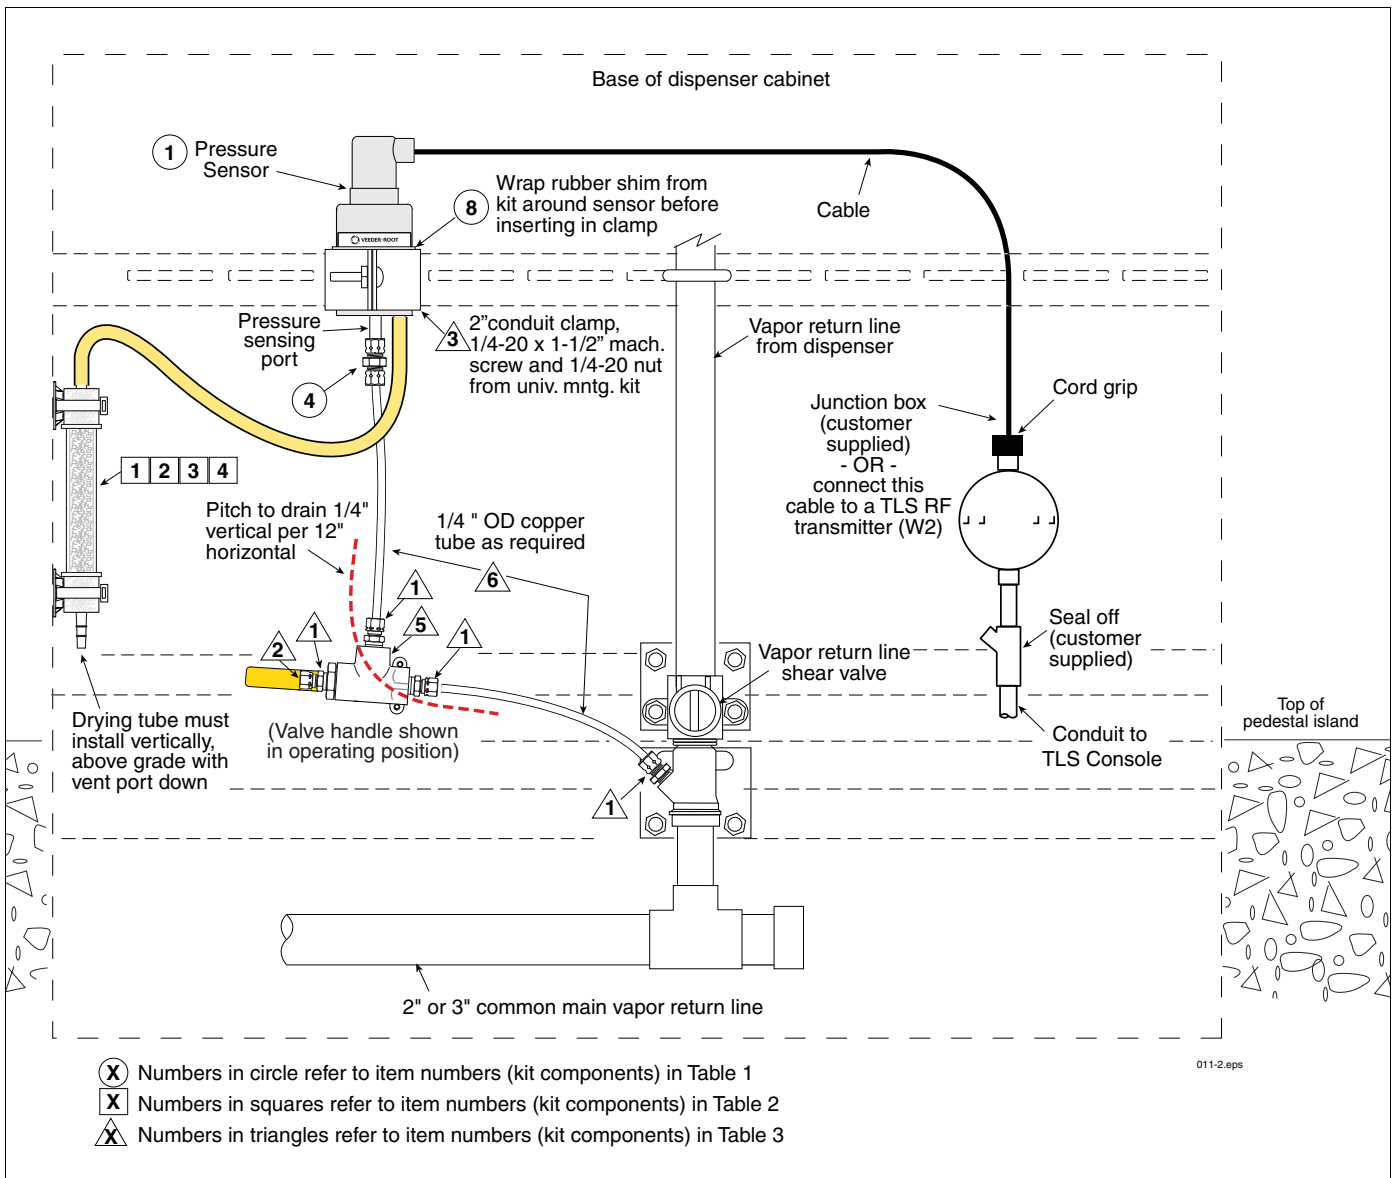
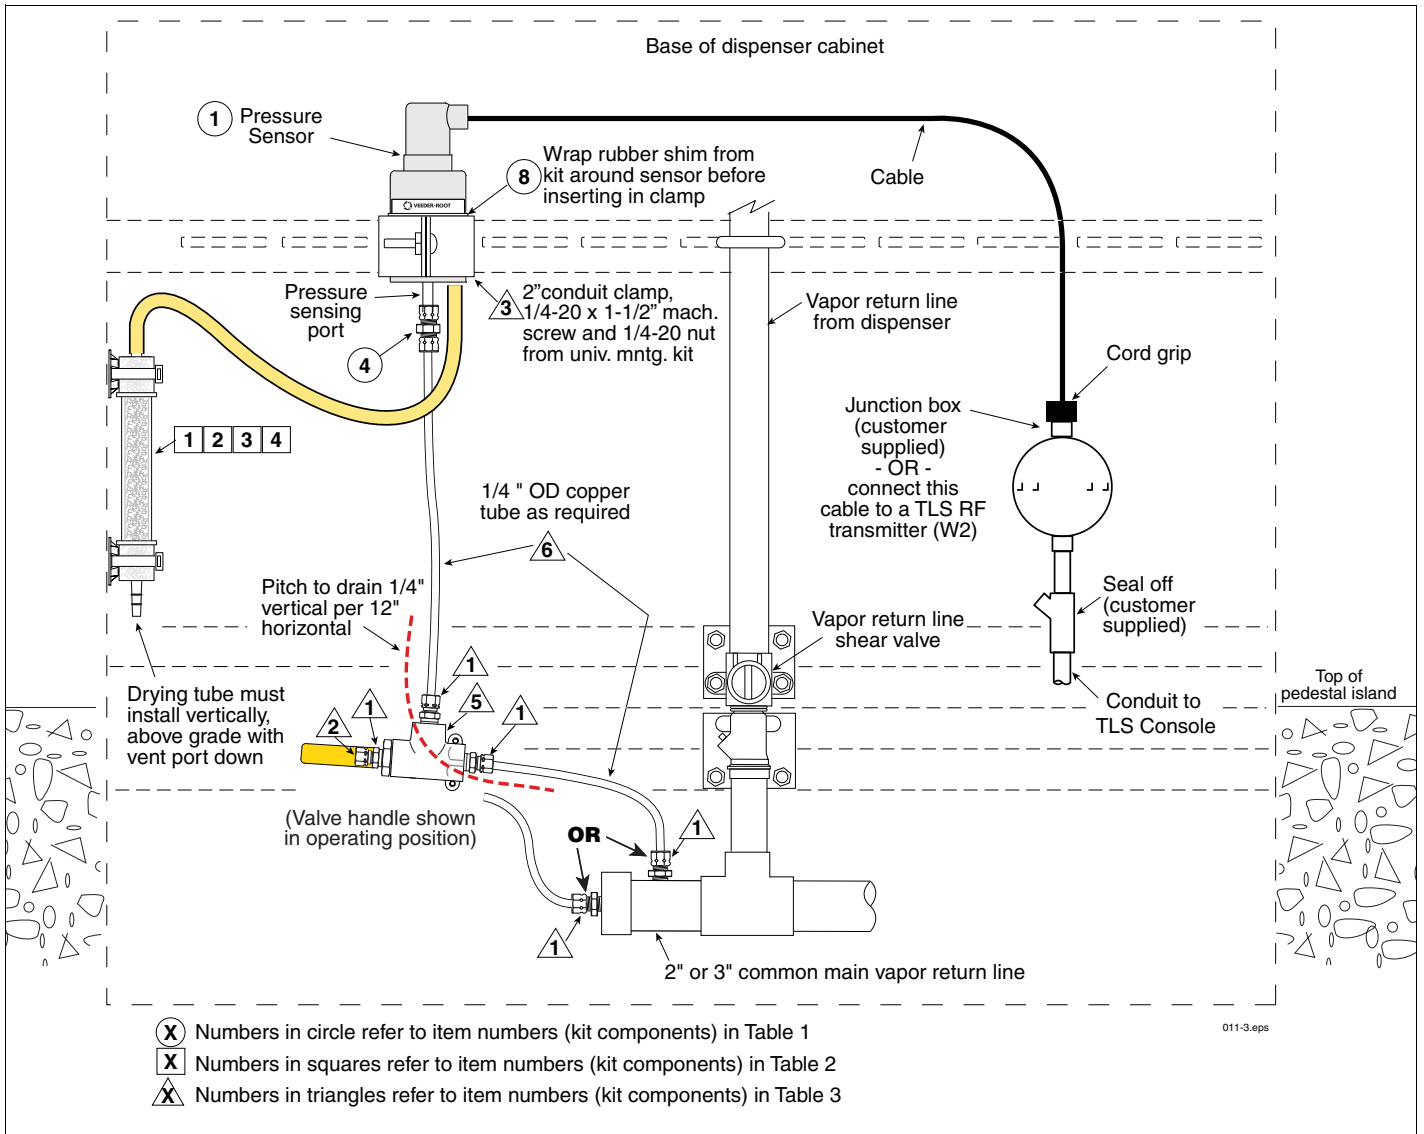

Figure 1. Example Pressure Sensor Install In Shear Valve Port - Preferred Non-ISD Installation (Without Vapor Flow Meter)
Figure 2. Example Pressure Sensor Install In Vapor Return Line - Non-ISD Installation (Without Vapor Flow Meter)
3. Refer to Pressure Sensor dispenser installation examples in Figure 1 and Figure 2 to locate a suitable port or plumb a suitable fitting for the Pressure Sensor tubing in either the vapor return shear valve or in the vapor return line. **NOTE: In ISD installations, the pressure port used must be below the vapor flow meter outlet.**
4. Install one of the 68CA-4-4 male connectors (item 1 in Table 3) from the kit into the vapor return tapped hole.
5. Install Pressure Sensor (item 1 in Table 1) vertically to the dispenser frame or piping using the 2-inch conduit clamp, rubber shim, and necessary bolts, nuts, and washers from the included Universal Sensor Mounting kit (item 3 in Table 3). Wrap the rubber shim (item 8 in Table 1) around the sensor before inserting it into the clamp. Also make sure the sensor cable outlet is facing up and the pressure sensing port tube in the base of the sensor is facing down.
6. Attach one end of the 62CA-4 union (item 4 in Table 1) to the pressure sensing port in the base of the Pressure Sensor.
7. Install the remaining 68CA-4-4 male connectors (item 1 in Table 3) from the kit into each of the three ports in the 3-way calibration valve (item 5 in Table 3).
8. Measure, fabricate, and install a 1/4" OD copper tube (item 6 in Table 3) that runs between the 62CA-4 union in the base of the sensor and the center port of the 3-way calibration valve.
10. Screw the 59CA-4 plug, (item 2 in Table 3) onto the left port's male connector. Make sure the valve's handle is set to connect the sensor to the vapor return line (normal operating position).
15. Get the contents of the pressure sensor drying tube kit (Table 2). Thread a tie wrap (item 3) through the slots in each of the self-adhesive mounts (item 4). Place the top mount against the large cap on one end of the tube and tighten the tie wrap until it is against the tube cap but you can still rotate the tube. Place the second mount against the other end cap of the tube, again pulling the tie wrap through the mount until it is against the tube cap but you can still rotate the tube.
Remove the two soft plastic seals from each end port of the drying tube. Get the Tygon tubing (item 2) from the kit and attach one end of the tubing to one end of the drying tube. Slide the tubing onto the drying tube as far as you can (snug). Referring to Figure 1, position the drying tube vertically against the inside of the dispenser with the open port of the tube down and above grade and estimate the length needed to loop from
Remove the paper cover from the self-adhesive base of the two tie wrap mounts and stick the drying tube to the inside of the dispenser in the spot you selected earlier. Pull each of the tie wraps snug and cut off the excess. Attach the other end of the Tygon tubing to the vent port (off center) of the Vapor Pressure Sensor. NOTE: the down port of the drying tube must remain open and be oriented down as shown in Figure 1.